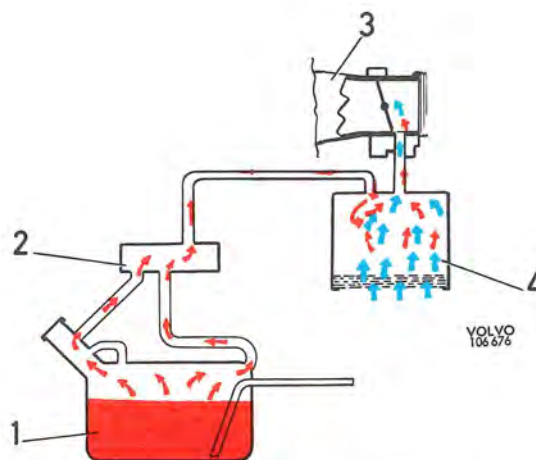

Fig. 2-125. Gas evaporative control system, principle
Gas fumes forming in the hermetically sealed container, particularly during warm weather, are conveyed to the expansion container (2, Fig. 2-125) and from there to the venting filter (4) where they are mixed with the active carbon.